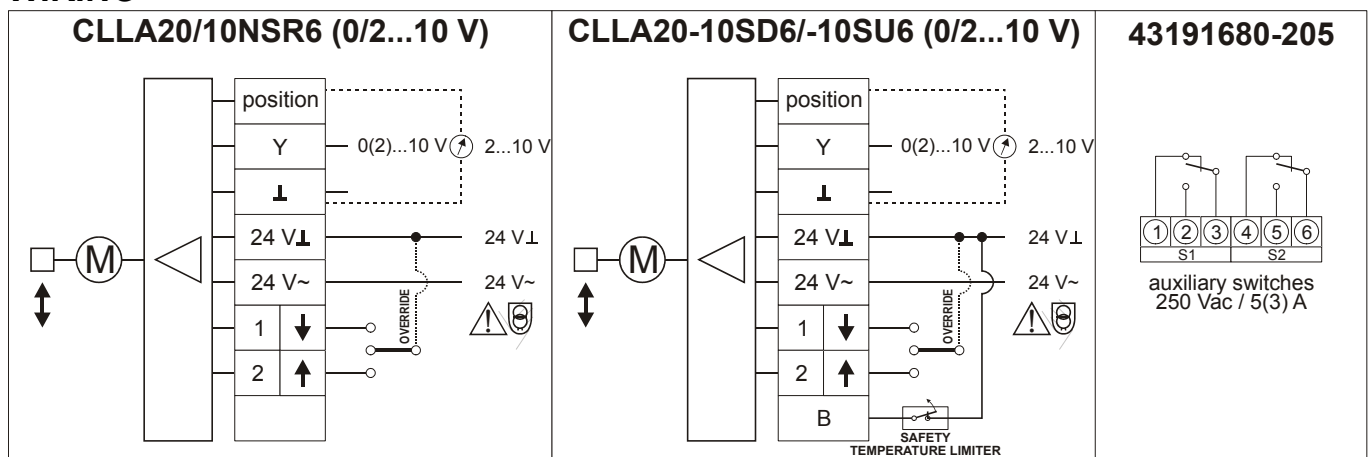

Fig. 2. Wiring
All actuators have an integrated override function (see also Fig. 2 on page 3). When the override signal is applied, the actuator drives to the fully-open or fully-closed position, regardless of the controller signal.
**NOTE:** To avoid malfunction, it is necessary to connect 24 Vac power and ground (see Fig. 2 on page 3).